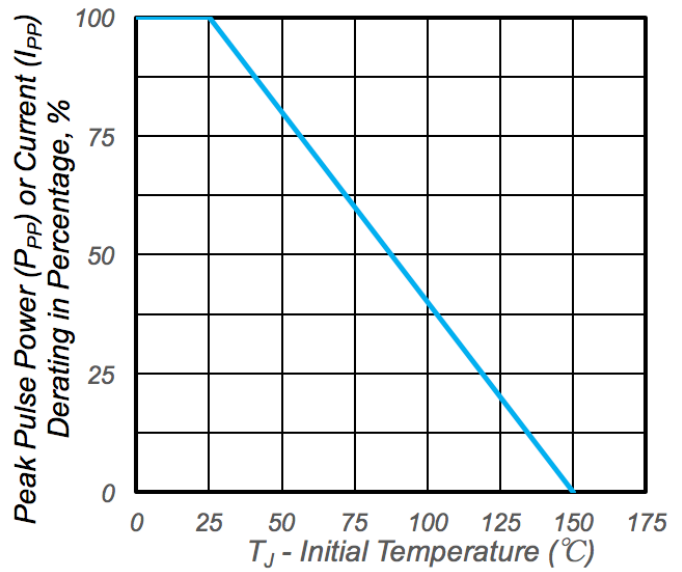
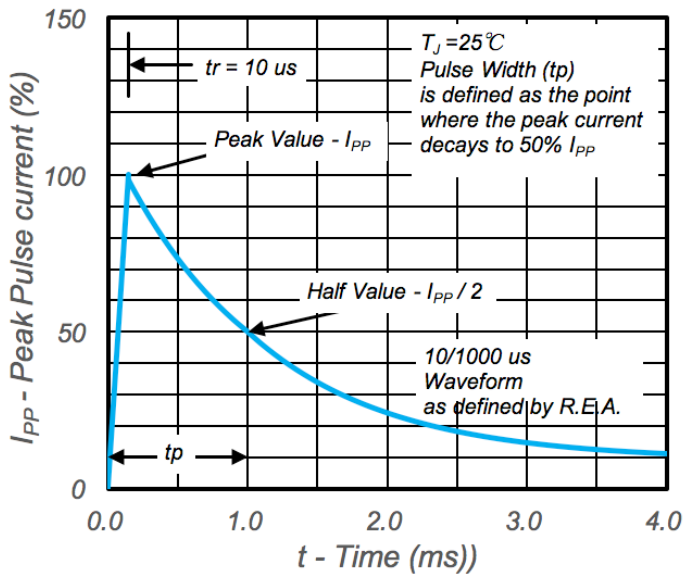

Fig.2 Pulse Derating Curve
Fig.3 Pulse Waveform
1. Non-repetitive current pulse, per Fig.3 and derated above  $T_A=25^\circ\text{C}$  per Fig.2.